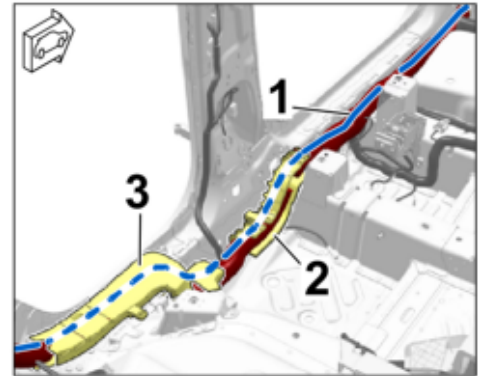

Figure 18
3.2.2 Door sill area, left ⇒ *Figure 18*